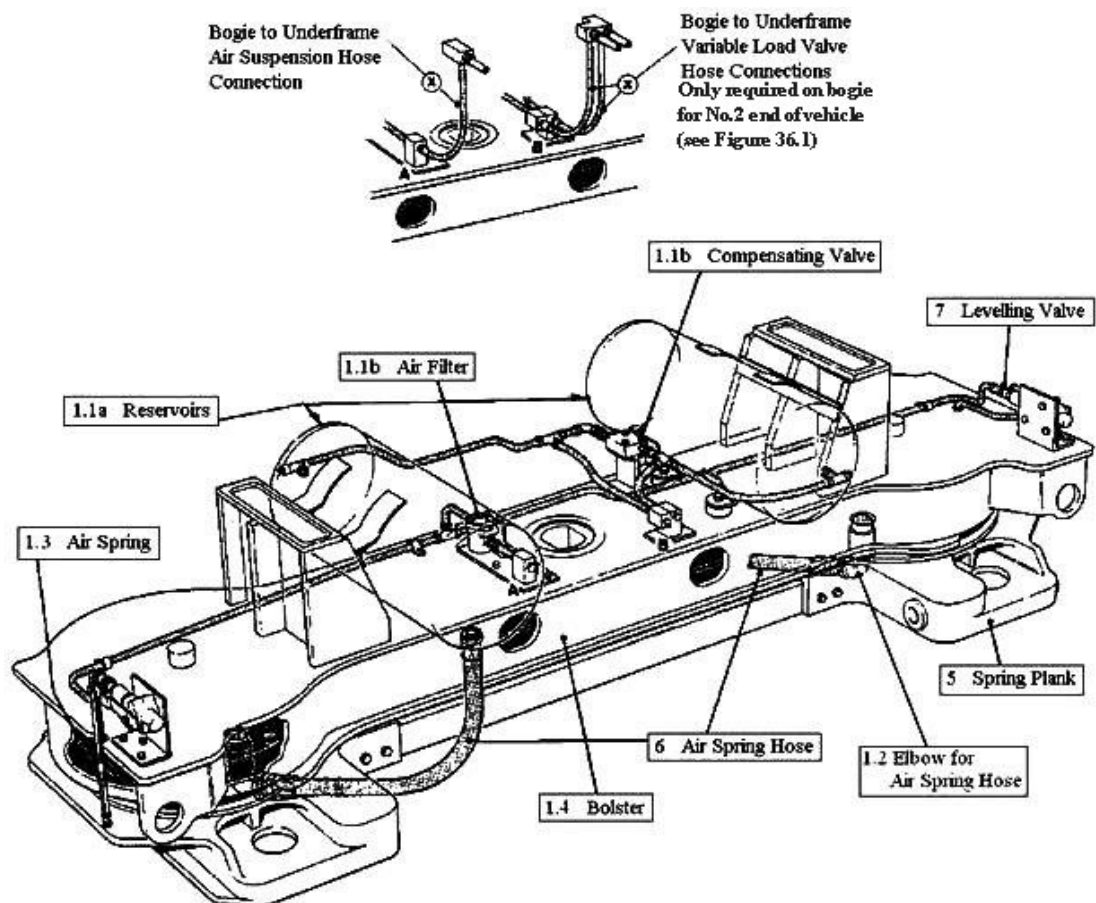

Figure 1.1: Air Suspension Pipework
- 1.1 Fit reservoirs to bolster, together with compensating valve, air filters (2 in-line and 1 surface mounted) and pipework (see Figure 1.1).